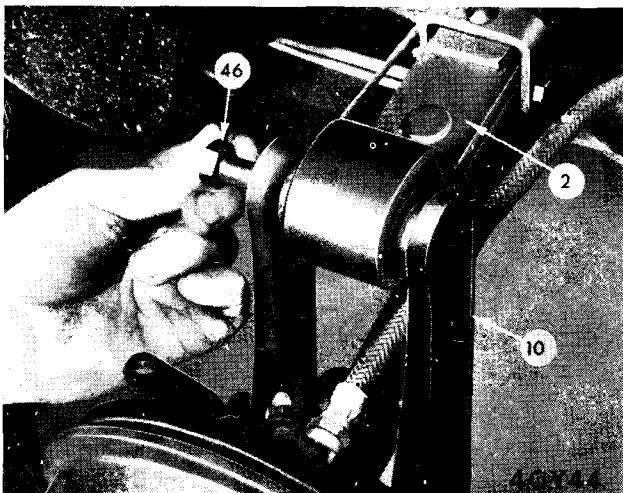
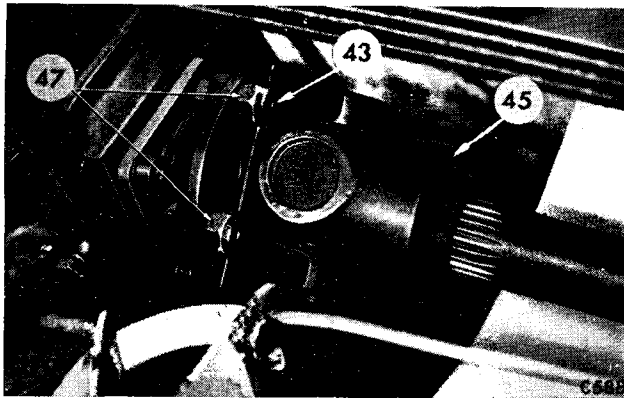

Fig. 25. Removing spring eye bolt
Fig. 30. Axle shaft universal joint connections
5. Supporting the vertical link (10), remove the bolt (46) from the road spring eye as shown on Fig. 25.
- the axle shaft coupling Fig. 30;
3. Remove the damper (9), lower and remove the jack.
4. Supporting the brake assembly, remove the bolt (46) from the road spring eye Fig. 25 and place the brake/axle shaft assembly on a clean bench.